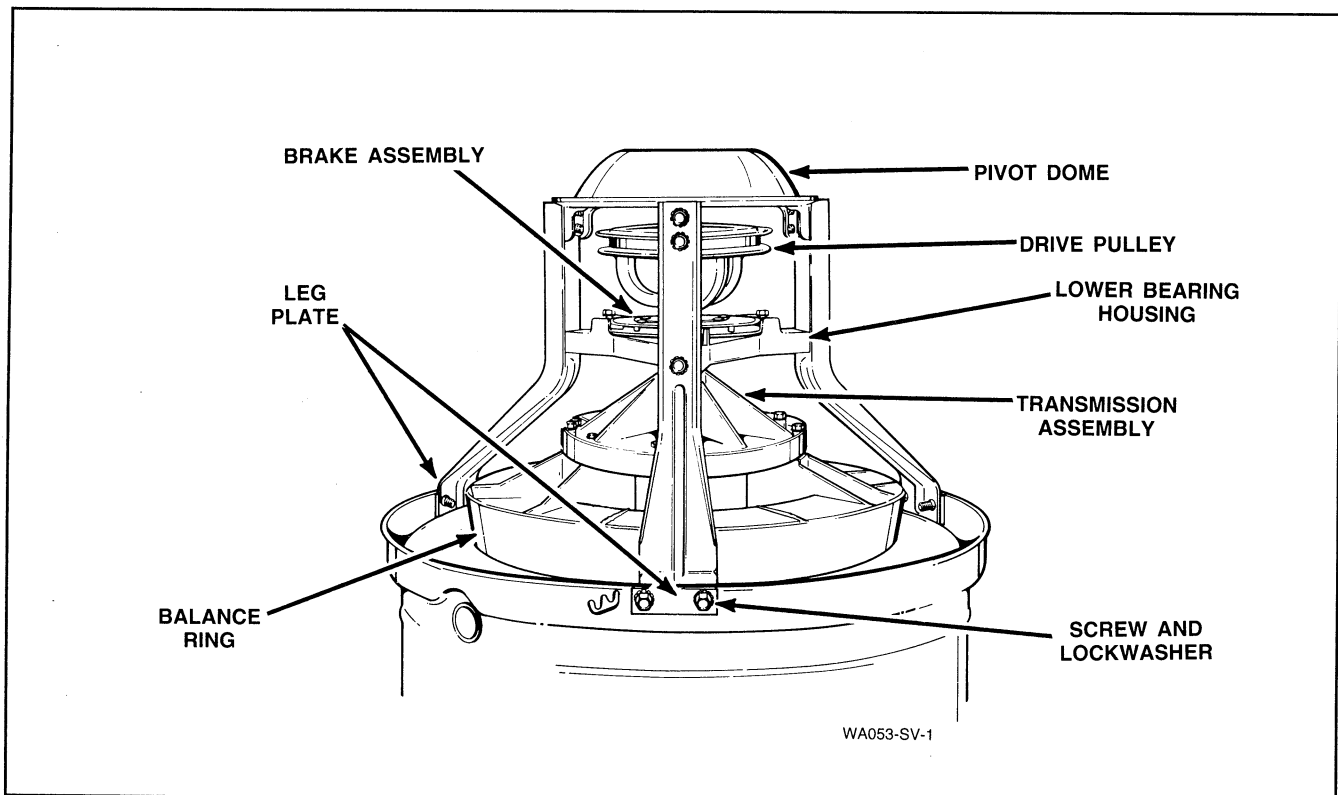

Figure 34
- s. Remove screws and lockwashers holding each support leg to outer tub, *Figure 34*. Then lift transmission, balance ring and pivot dome off tub.